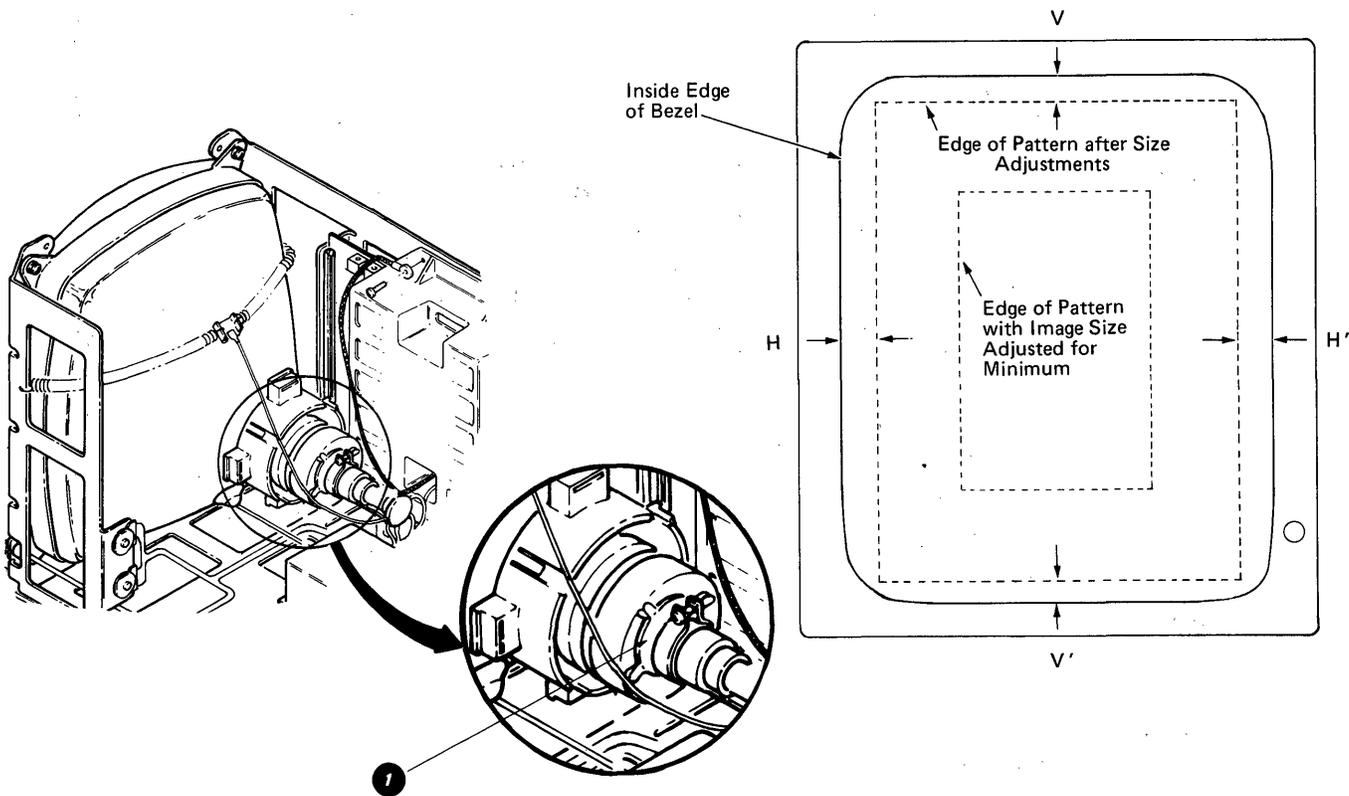

Figure 4-16. Centering Rings and Image Size After Adjustments
2. With the test pattern showing on the display screen, rotate one of the centering rings ① until the square tabs on the two rings are aligned. (See Figure 4-16.)
4. Rotate the two rings in opposite directions, at the same time and in equal amounts, to center the image top to bottom on the screen. (See Figure 4-16 .)